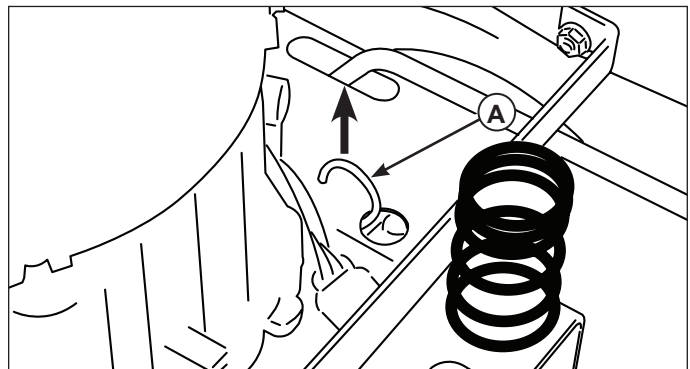

Figure 2. Transmission Release Levers (On Each Side)
2. To disengage the transmissions, pull the transmission release levers (**A**, Figure 2), located on either side of the engine, up into the PUSH position.